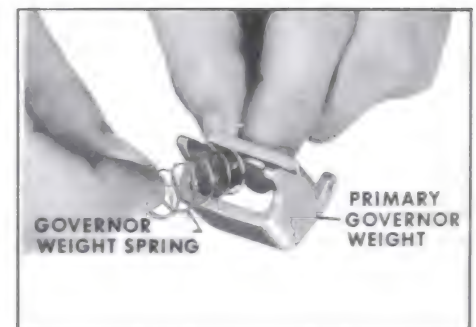

Figure 5-247
2. Install governor weight spring into primary governor weight. See Figure 5-247.